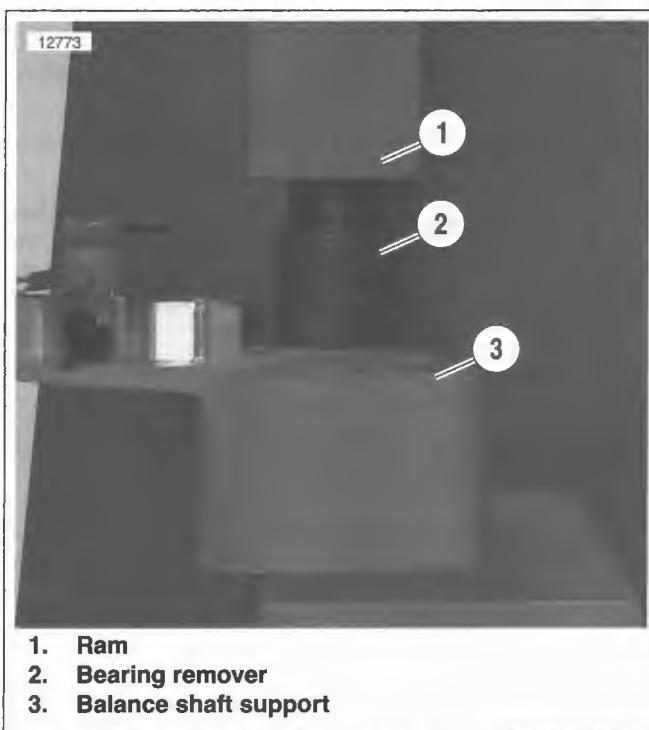

Figure 3-155. Removing Bearing from Shaft Support
3. See Figure 3-155. Place housing (3) on a suitable support with top surface facing up.
4. Place bearing remover (2) over bearing.
5. Center bearing remover under ram (1) of press. Slowly lower ram to remove bearing.